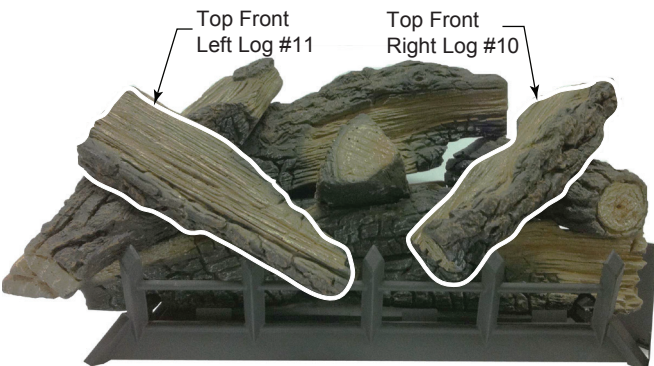

Figure 6.24 - Log #10 & #11 Placement
10. Place top front right log (#10) onto mid right log (#6) by placing notch on bottom of log onto locating block on log #6. Rest bottom end of log onto grate bar. See Figure 6.24.
11. Place top front left log (#11) onto mid left log (#8) by placing notch on bottom of log onto locating block on log #8. Rest bottom end of log onto grate bar. See Figure 6.24.